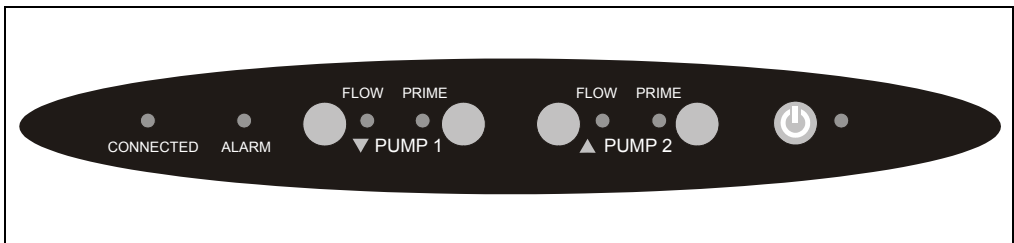
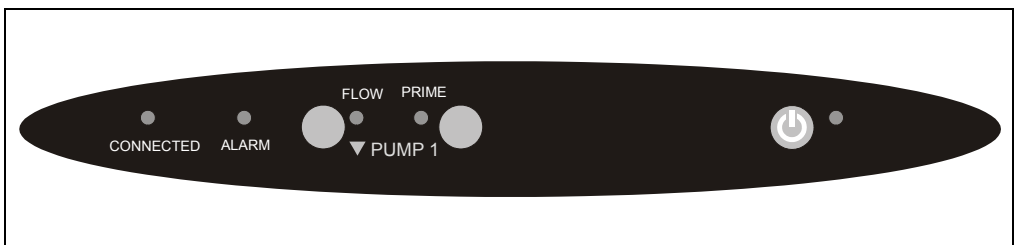

Figure 2-1. DP Status Bar
Figure 2-2. SP Status Bar
A status bar on the front of the ICS-3000 Dual Pump (DP) and ICS-3000 Single Pump (SP) includes buttons for controlling certain pump functions, as well as LEDs (light emitting diodes) that indicate the status of several pump functions (see Figure 2-1 and Figure 2-2).
**NOTE** For routine on/off control, use the **POWER** button on the front of the DP/SP (see Figure 2-1 and Figure 2-2). To